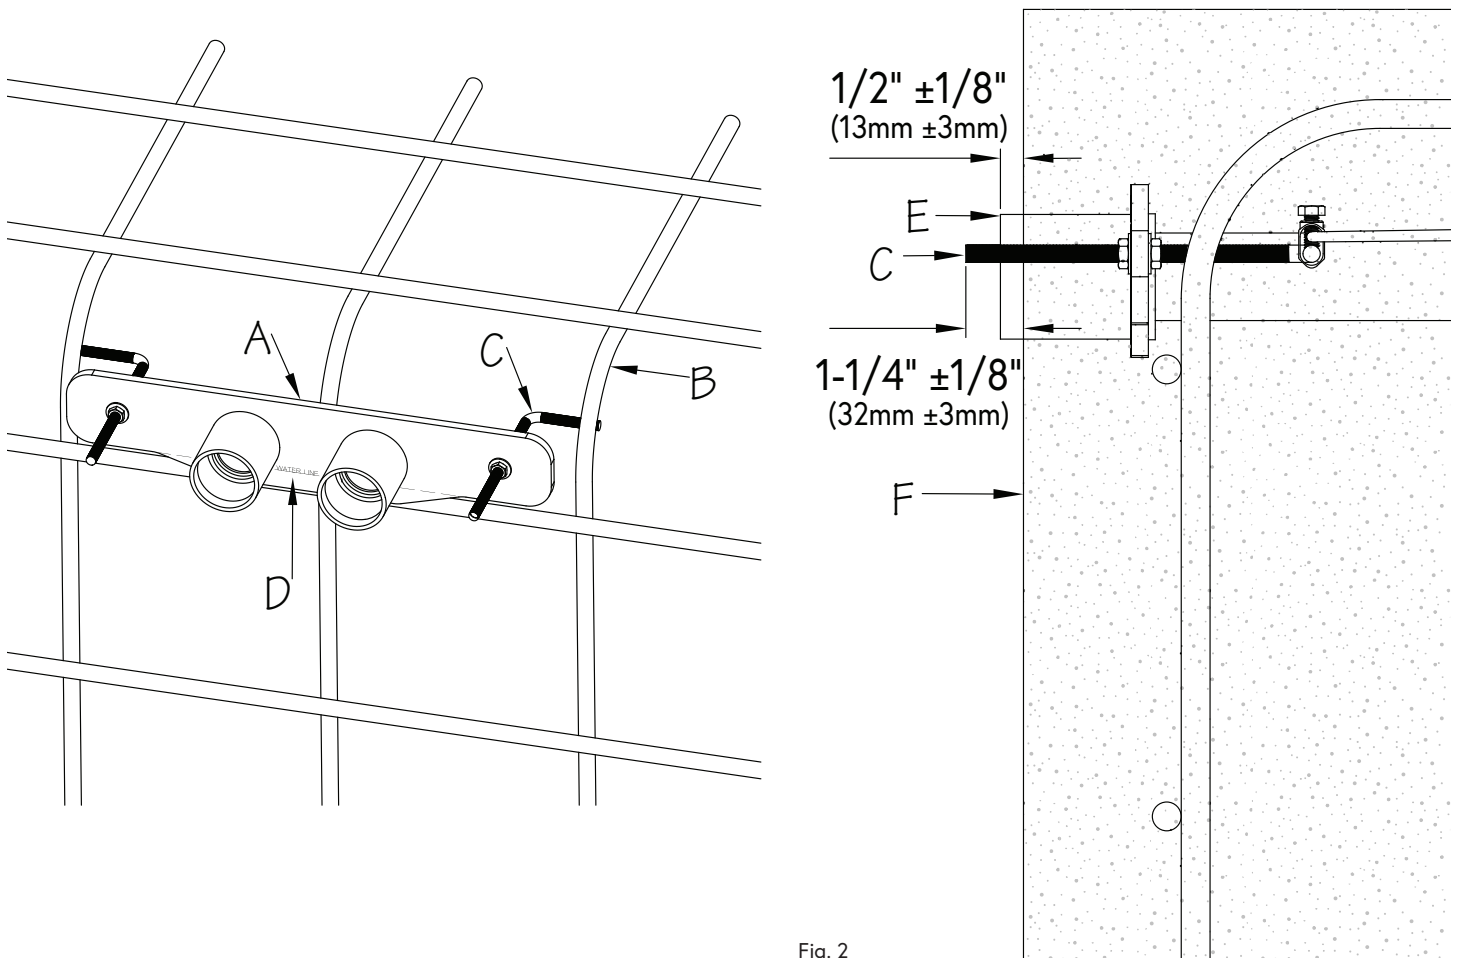

Fig. 2
1. The Mounting Kit Assembly (A) is to be secured to the Rebar Grid (B) of the pool in the desired Fastlane® Swim mounting location prior to the guniting application as shown in Figure 2. This should be done by securing the Threaded Rods (C) to the rebar using rebar ties.